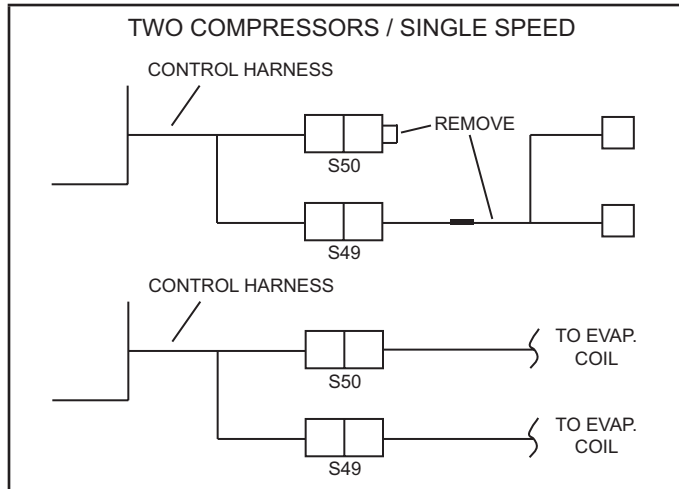

FIGURE 6. Remove and Discard Jumper Harness
- 1 - Remove and discard jumper harness on control harness. Refer to figure 6.